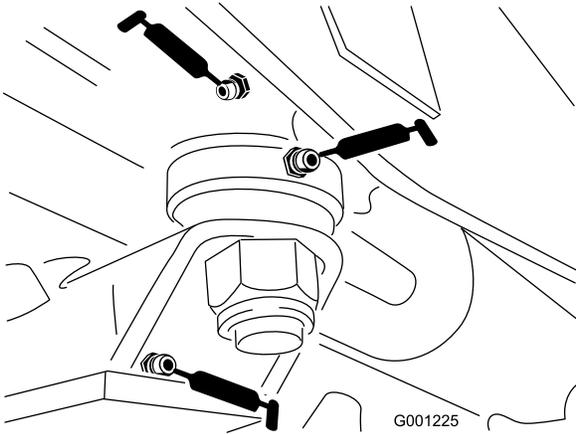

Figure 43
- Steering plate bushings (Figure 43)
- Axle pin bushing (Figure 43)